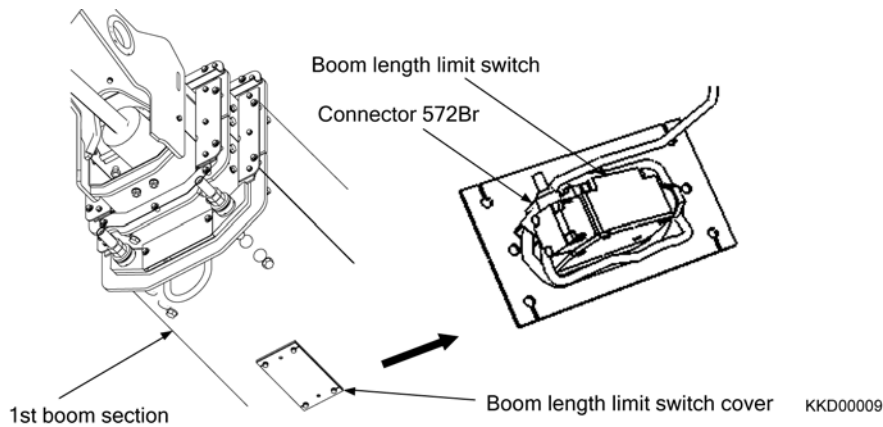

Fig. 2-34
- 13) Open the boom length limit switch cover located under the 1st boom section, and then disconnect the cable for the boom length limit switch (Connector 572Br) (Fig. 2-34).